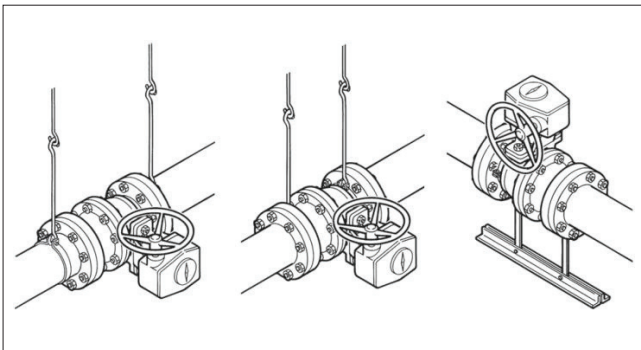
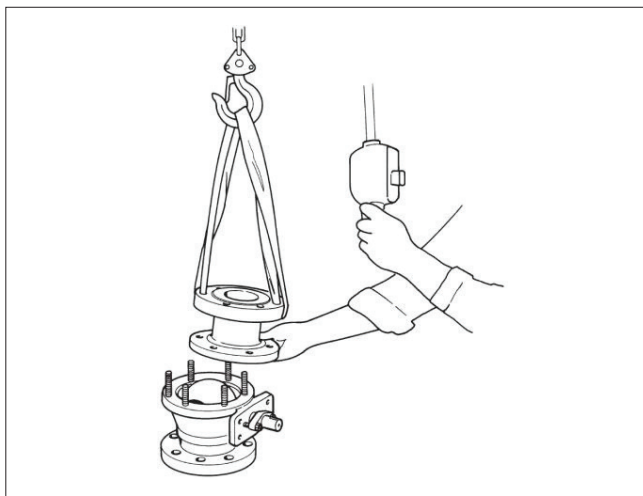
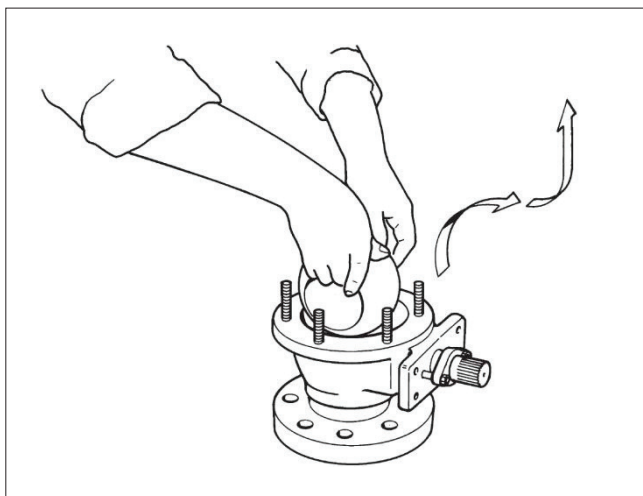

Fig. 8 Supporting the Valve
Fig. 13 Lifting the Body Cap
Fig. 14 Removing the Ball
It may be necessary to firmly support the pipeline in order to protect the valve from excess stress. Sufficient support will also reduce pipeline vibration and thus ensures proper functioning of the positioner. To facilitate servicing, it is preferable that the valve be supported by the body, using pipe clamps and supports. Do not fasten supports to the flange bolting or to the actuator. (See Figure 8). Check that pipe-induced stress on valve is not excessive, per ANSI B31.1 paragraph 35.
- Support the valve carefully with a hoist. Place ropes carefully and unscrew the pipe flange bolts. See that the ropes are positioned correctly. Lift valve down. (See Figure 8).
- Place the valve in a standing position on the pipe flange end. Use a level surface that will not scratch the flanges. See that the body stud nuts (10) are facing upward.
- Remove the key (21).
- **S7 series coker valves only:** Remove the bottom plug (20) by removing the screws (18).
- Remove the nuts (10) that fasten the body cap (2) to the body (1).
- Remove the body cap (2). If the seat (5) and E- ring (6) are not laying on the ball (4), prevent them from falling from the body cap (2) and detach them later. **Don't leave your fingers between the body cap and the surface!** Stand the removed body cap on its pipe flange. (See Figure 13).
- Remove the seat (5) and E-ring (6) from the body or cap.
- Lift the ball (4) from the body (1) by gripping by the flow bore (small sizes) or by passing a rope through the flow bore and turning it at the same time around the flow bore axis. Handle the ball carefully and place it on a soft surface. (Fig. 14).